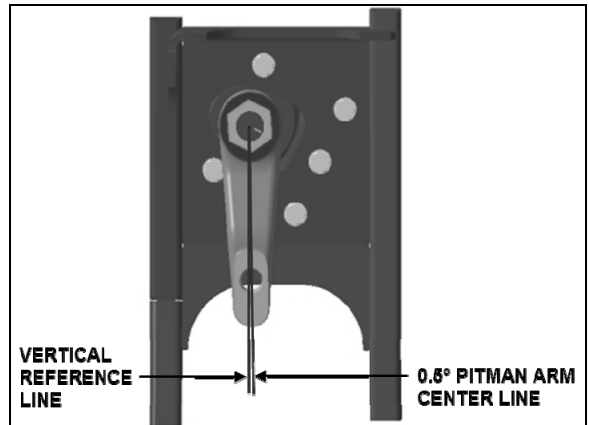

FIGURE 24: IFS PITMAN ARM ALIGNMENT 14056
4. Check that the angular relationship of the pitman arm to the steering gear is as shown in figure 24.